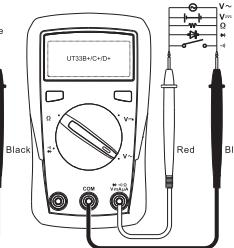

Figure 2b
1. AC/DC voltage measurement (see Figure 2b)
2. Resistance measurement (see Figure 2b)
3. Continuity measurement (see Figure 2b)
4. Diode measurement (see Figure 2b)